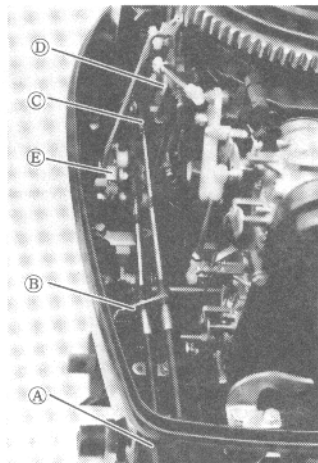

Fig. 15
- Connect the throttle remote control cable to the advancer arm (D) and the shift remote control cable to the top of the shift arm (E) with clip pins.
- Fix the remote control cables with cable clip (B) at the cable outer groove, with bolt at the lower motor cover, and grommet (A) as shown in Fig. 15. After installing, check if the free accel lever and control lever on the remote control box can be smoothly shifted to full open and close positions.